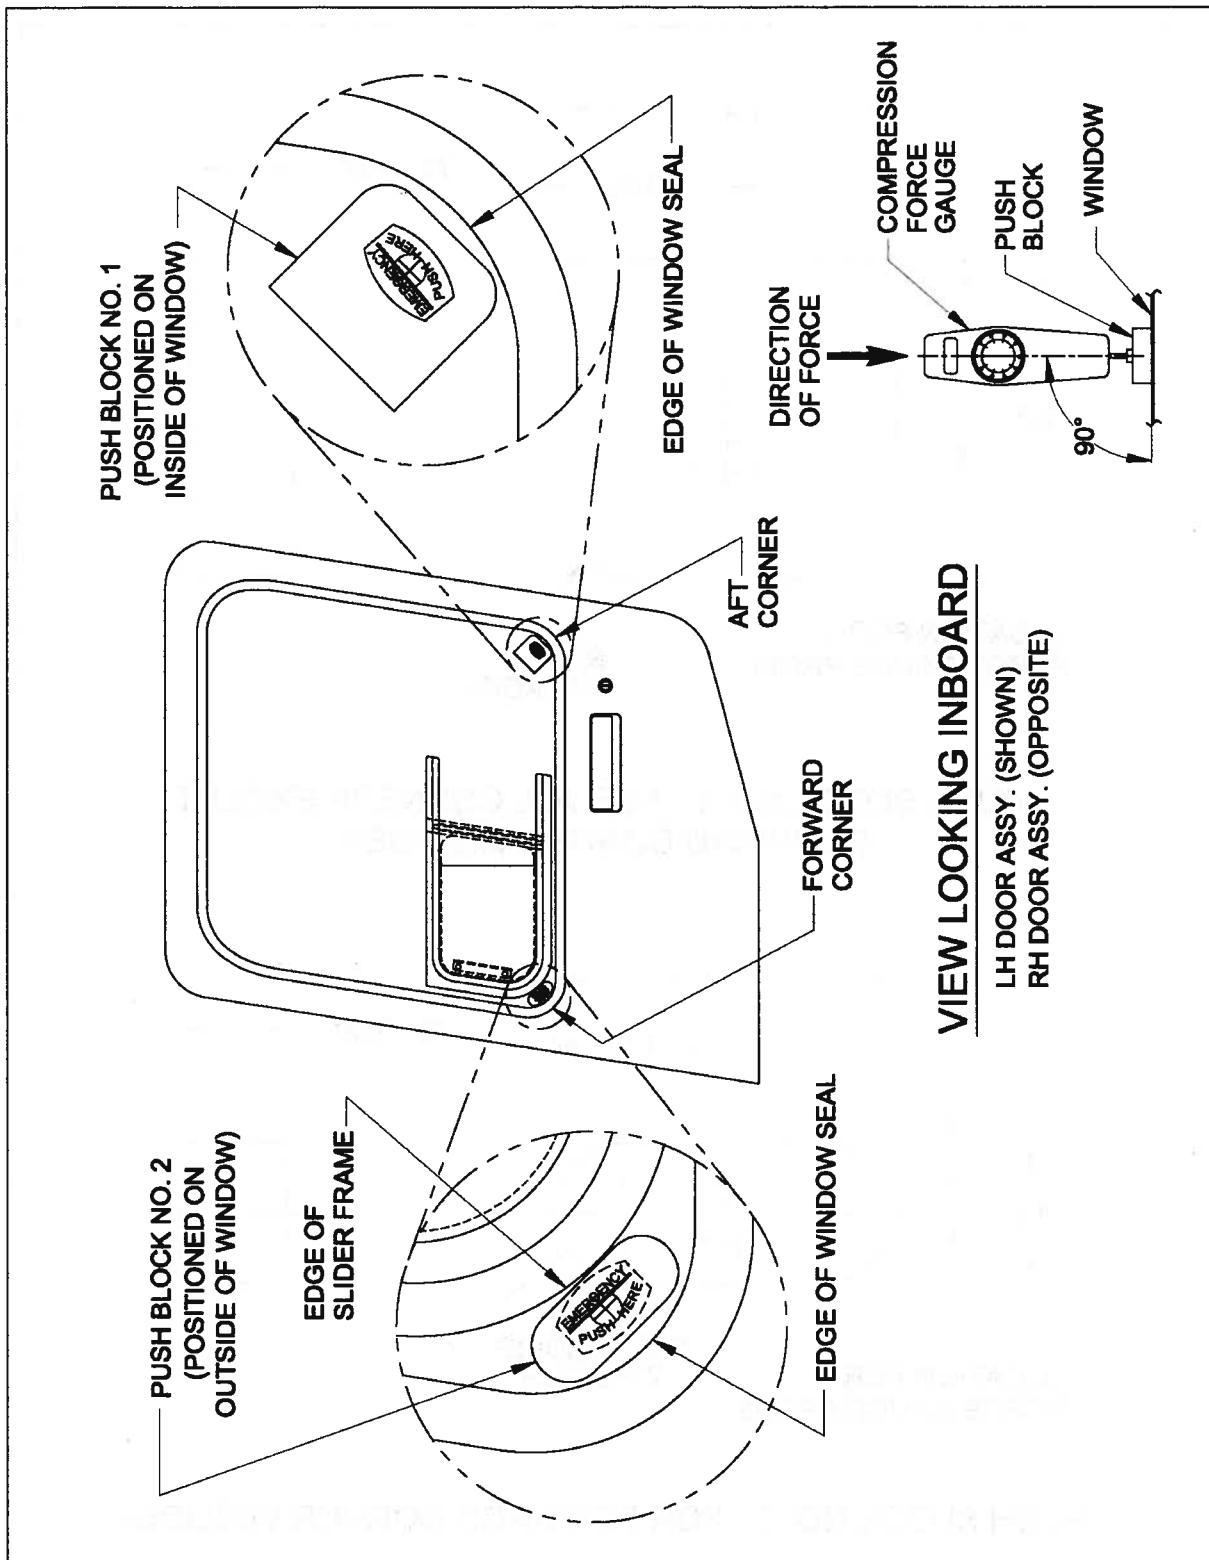

FIGURE 3 – PUSH BLOCK POSITIONS FOR INITIAL EVALUATION
6. From the lower inside aft corner of the window gradually apply force, perpendicular to the window, to the center of the "Emergency, Push Here" decal that is located in that corner (see Figure 3).
1. From the lower outside forward corner of the window, gradually apply force, perpendicular to the window, to the center of the “Emergency, Push Here” decal that is located in that corner (see Figure 3).
5. From the lower inside aft corner of the window gradually apply force, perpendicular to the window, to the center of the "Emergency, Push Here" decal that is located in that corner (see Figure 3).